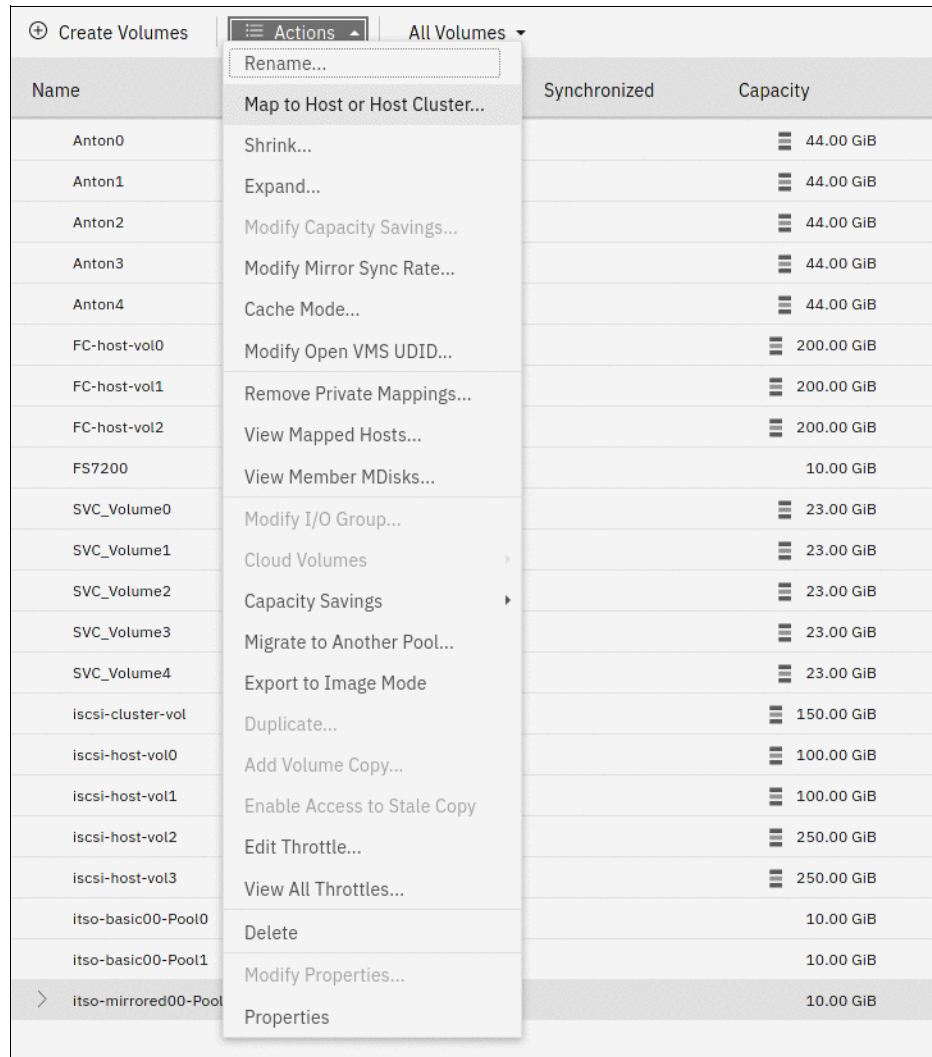

Figure 6-58 Volume mapping menu item
1. From the **Volumes** menu, select the volume that you want to modify. Select **Actions** → **Map to Host or Host Cluster...**, as shown in Figure 6-58 on page 429.